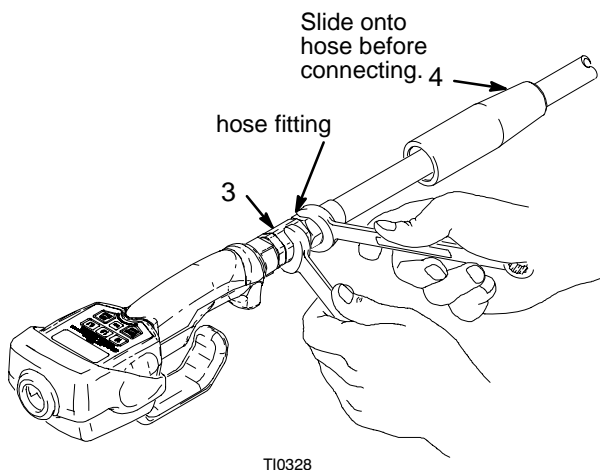

Fig. 3
8. Slide the swivel cover (4) of the PM5 onto the hose, small end first. See Fig. 3.
9. Apply thread sealant to the male threads of the hose fitting, thread the hose fitting into the swivel (3) of the PM5, and tighten it firmly. See Fig. 3.